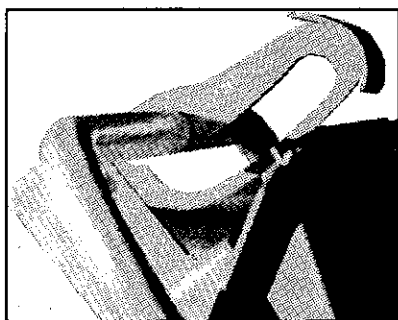

FIG. 12 - SAFETY BAR LOCKED
**STEP 6:** Make sure the clutch will release when the safety bar is pushed toward the feed roll. If the feed roll continues to take in material, the feed roll clutch needs lightly lubricated or safety bar cable requires adjusting. (See *Lubrication and Safety Bar Cable* within the *Maintenance* section of this manual.) The safety bar locks in position with latch on top of hopper. (Refer to Figure 12.) Unlock by lifting up-on latch.